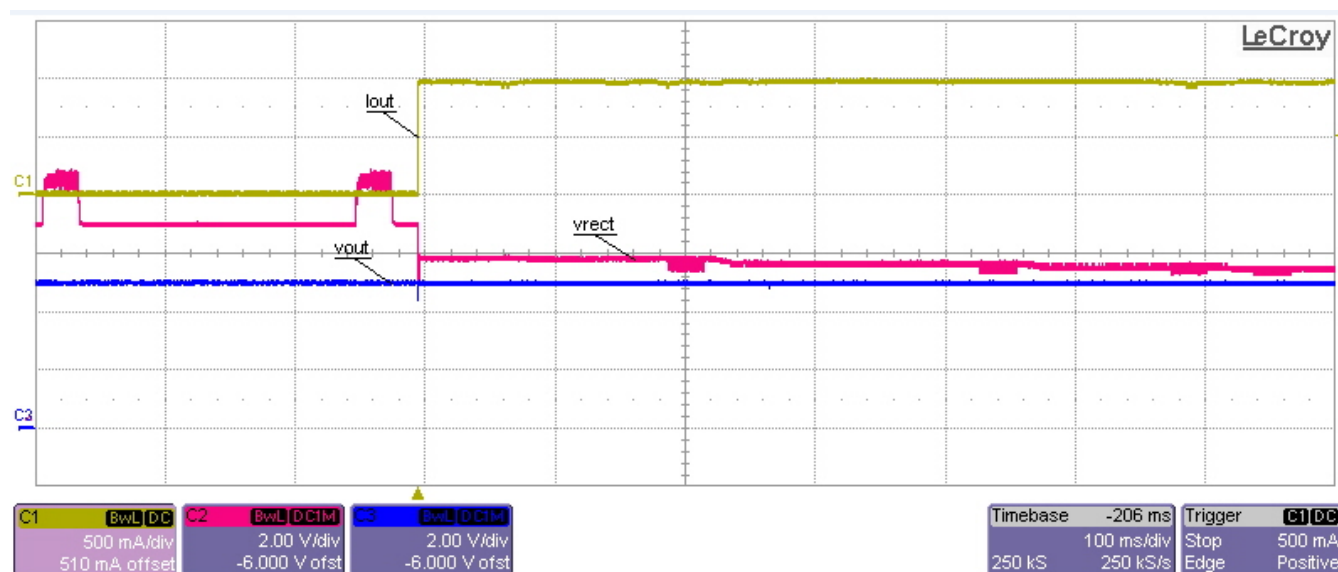

Figure 3. Load Step, 0 mA to 500 mA
- Monitor load current, rectifier voltage, and output voltage as shown in Figure 3.